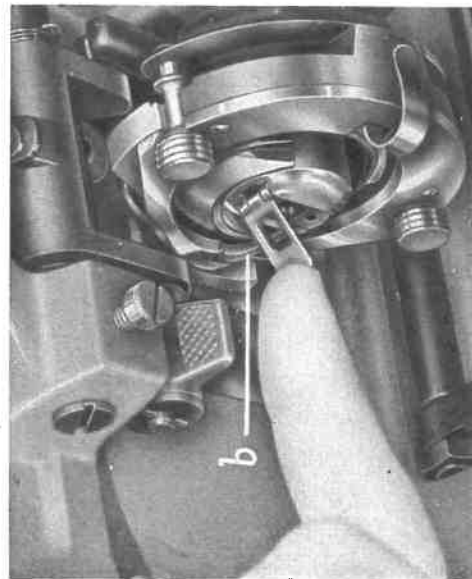

Fig 9
- c) Raise the latch of the bobbin case with the thumb (Fig. 9) and draw the bobbin case out of the machine.
When the bobbin case is fully inserted into the shuttle so that its position finger "b" (Fig. 9) fits into the notch on the race plate, release the latch and press the bobbin case into the shuttle as far as it will go.
Bobbin case improperly inserted into the shuttle.	See instructions page 8, Figures 9, 10.